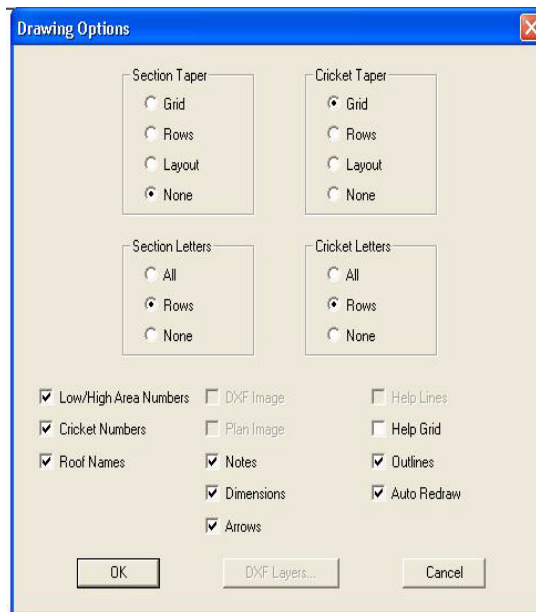

Figure 1-16 Drawing Options dialog box
2. In the Section Taper area, click Short Arrows. And in the Section Letters area, click Rows, as shown in Figure 1-16.